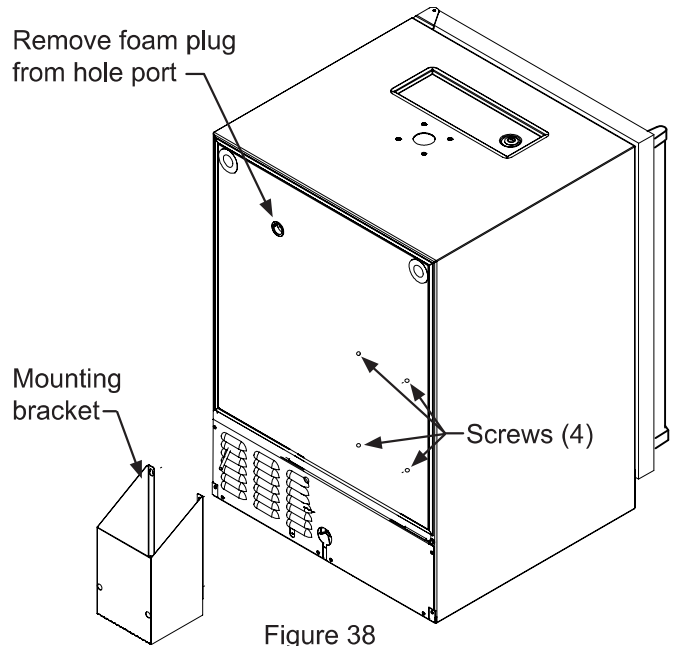

Figure 38
Mount the (4) screws (#10-32 x 3/4" flathead machine screws) provided with the bracket in the rear of the appliance, see Figure 38. Do not completely tighten. Place the keyhole slots in the flanges of the bracket over the four screws and tighten them to secure the bracket to the back of the cabinet. The bracket can also be fastened to adjacent cabinetry using the provided #10 x 3/4" wood screws. Mark the hole locations where required using a pencil and the slots in the mounting bracket. Drill appropriate pilot holes (depending on the material you are mounting to) and secure the bracket per the above instructions.
Remove the foam plug from the hole port as shown in Figure 38, and feed the red CO₂ line through the rear wall and out the coil cover on the inside of the cabinet. Connect the red CO₂ line to the keg coupler.